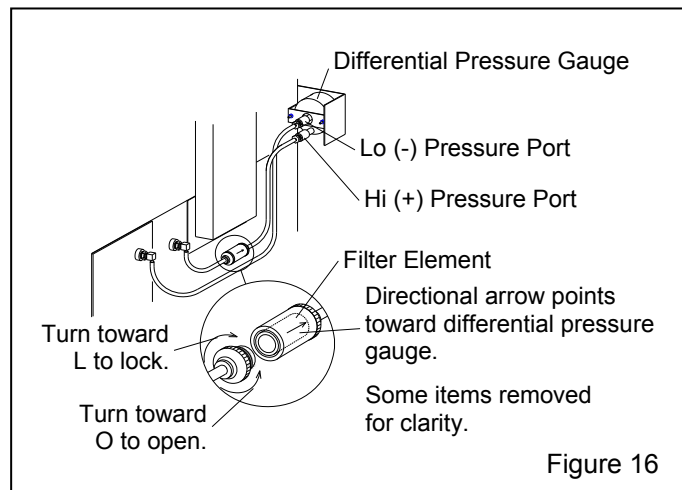

Figure 16
### 6.5 Inline Filter, Differential Pressure Gauge Figure 16
**If the inline filter is removed from the tubing, reinstall it with the directional arrow pointing toward the Hi (+) pressure port on the differential pressure gauge, as shown in Figure 16.**